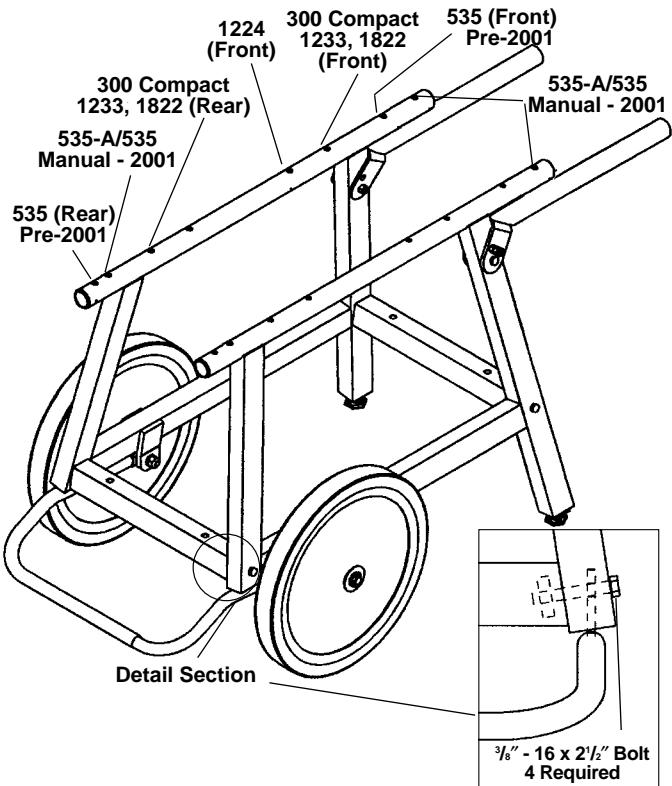

Figure 4 – Stand Assembly
3. Assemble stand with "inside" decals located towards the inside of the stand (Figure 4).
4. Insert stand stop tabs into bottom of the legs as shown in the detail drawing. Use the four (4) $\frac{3}{8}$ " - 16 x $2\frac{1}{2}$ " hex bolts to secure the legs to the cross-member. Adjust the two halves of the stand stop to the
CAUTION For proper balance and operation, RIDGID machines must be mounted through the appropriate holes in the legs (Figure 4).